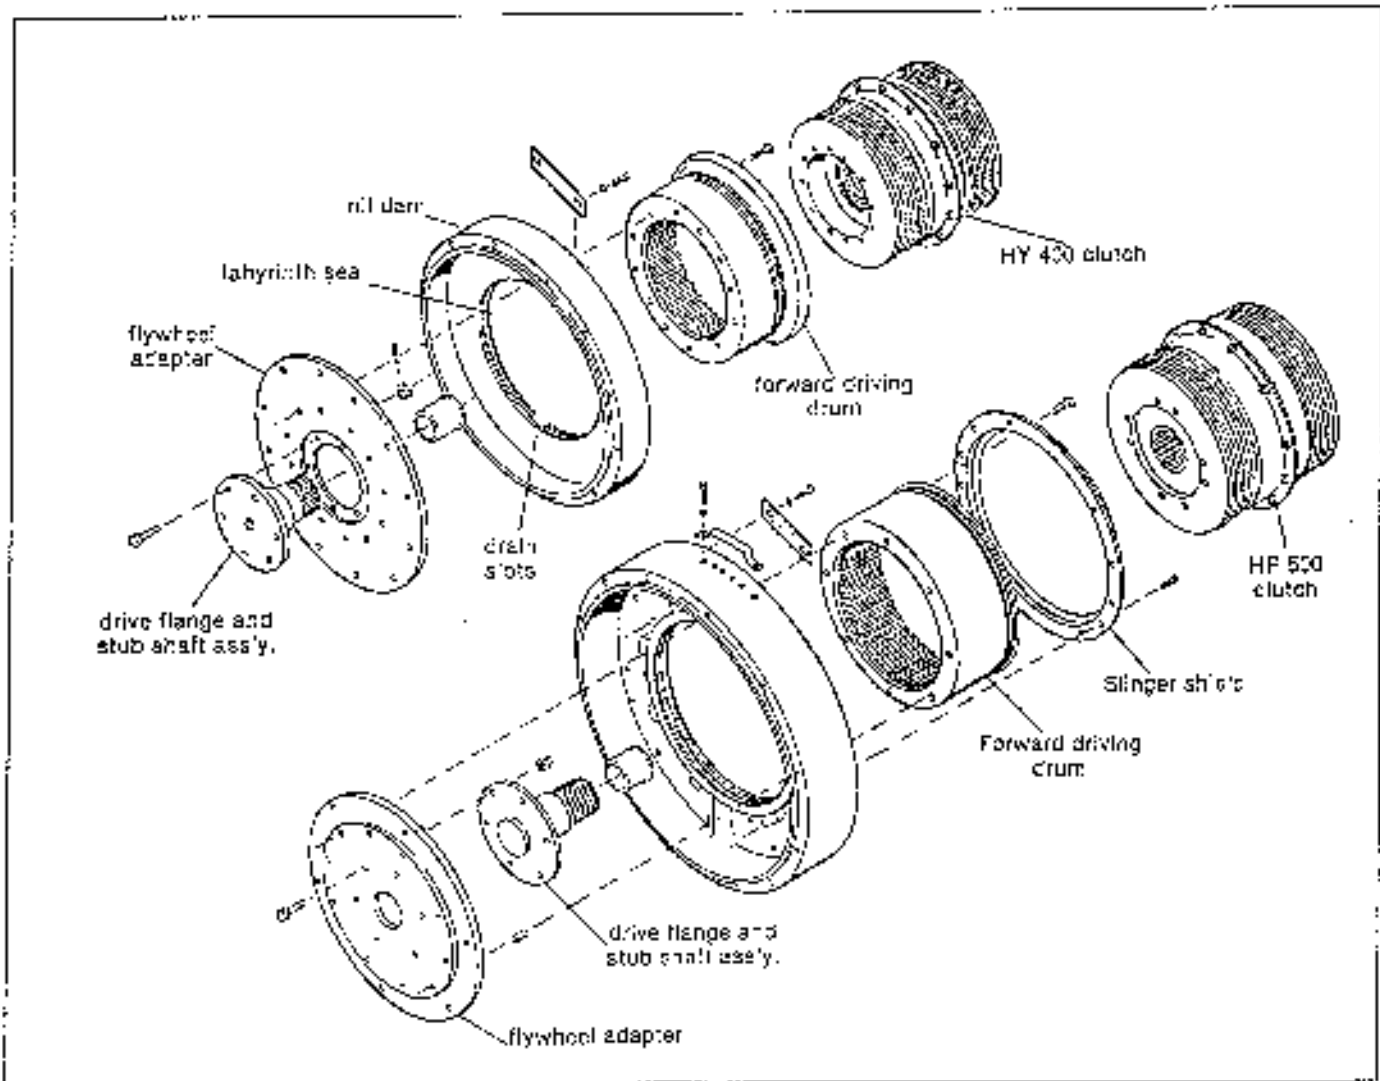

Fig. 33. Adapter Group and Clutch
2. Remove oil dam and inspect labyrinth oil seal on inside diameter. Repair or replace as necessary (wear or damage to seal indicates misalignment — check further!) (See fig. 33).